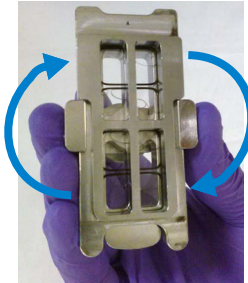

Figure 16 Rotation of the final assembled chamber
- 4 Rotate the final assembled chamber in a *vertical orientation*, clockwise, 2 to 3 times to wet the gaskets (see Figure 16).